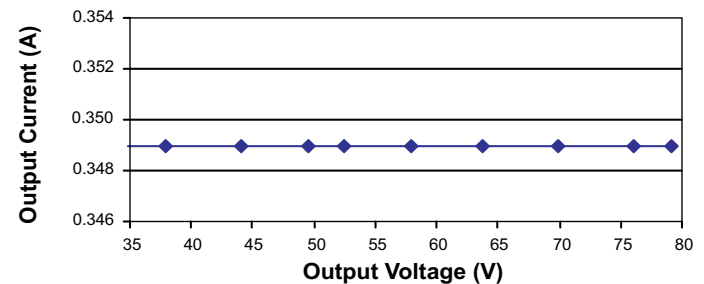

Fig. 3 Output Current vs. Output Voltage
**2. Current Regulation:** Figs. 3 and 4 show the output current regulation vs. output voltage and input voltage respectively. The total current regulation (line and load combined) is found to be less than 1%.